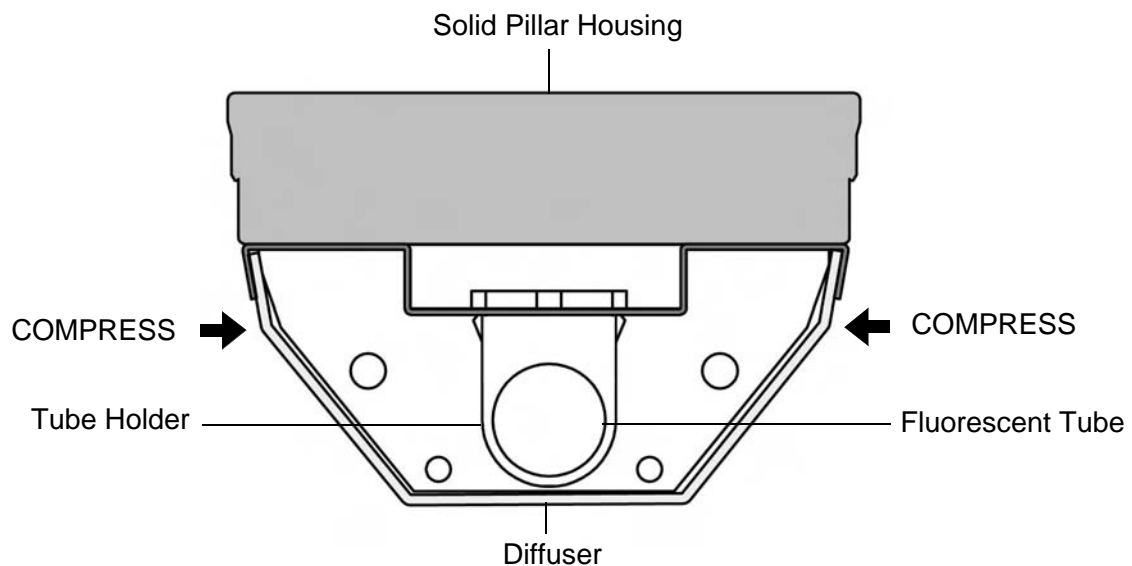

Figure 9: Centre Pillar Light
2. Remove the centre pillar diffuser by compressing both sides of the diffuser so that it disengages from the pillar housing (see Figure 9 below).